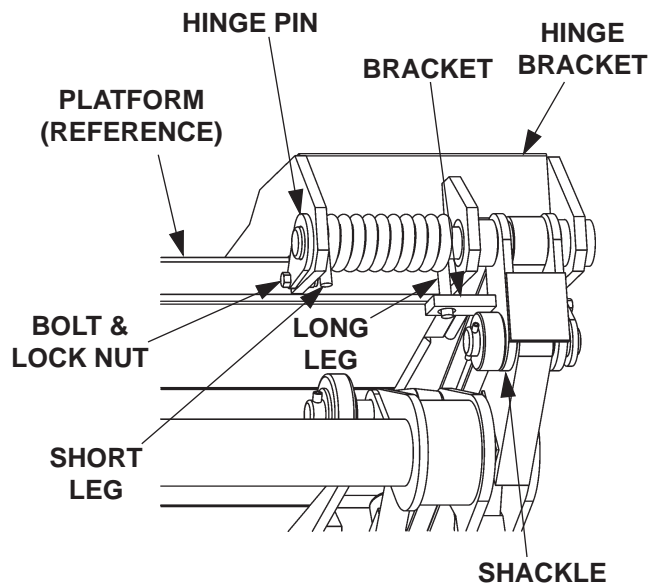

FIG. 13-2
4. Install the Torsion Spring as shown in **FIG. 13-2**. Make sure the long leg of the spring is inserted in the bracket located on Shackle (**FIG. 13-2**). Make sure the short end of the spring is visible and resting against the edge of the Hinge Bracket (**FIG. 13-2**).